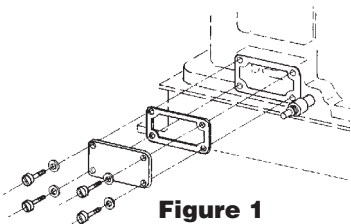

Figure 1
2. Remove crankcase inspection plate (Figure 1).